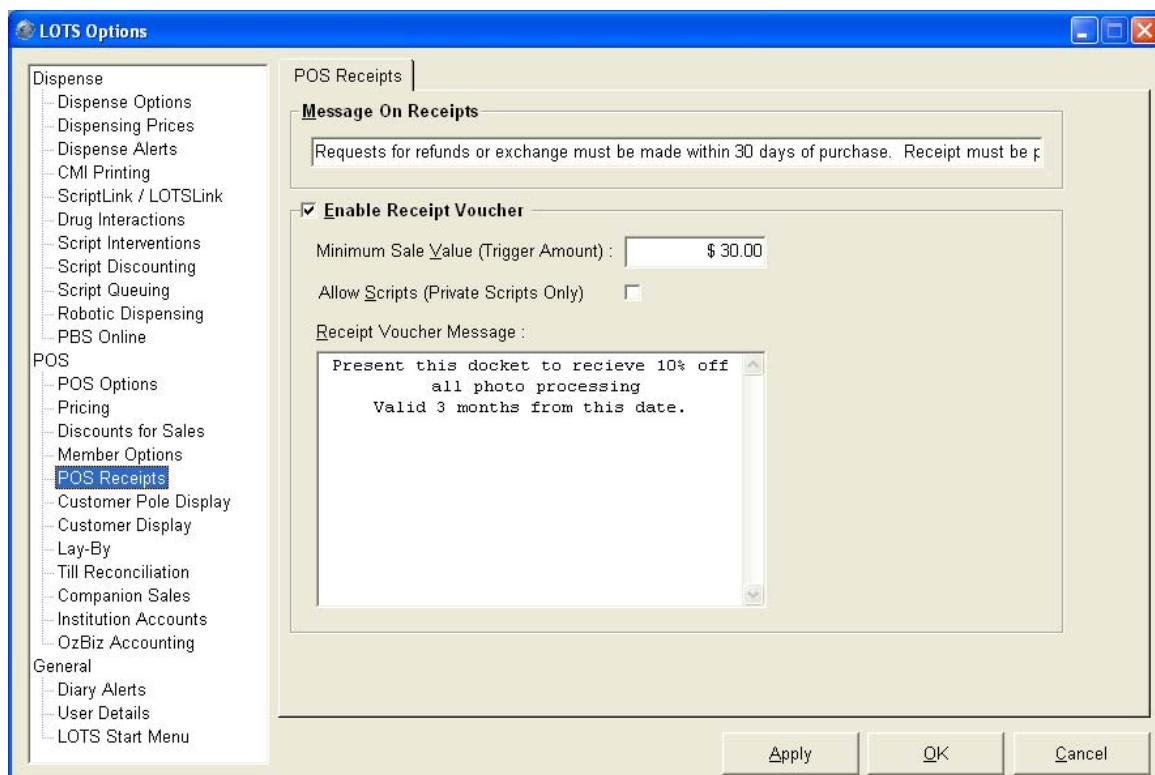

Figure 415
1. Navigate from the LOTS Start Menu → Tools → Options → POS Receipts (see Figure 415).